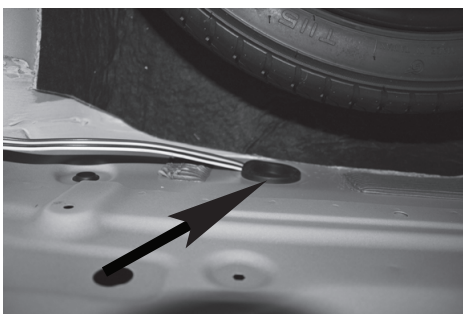

Figure 5
9. Cut the cable ties on 4-Flat portion of harness. Route 4-Flat portion of the RV harness under the opening of side wall panel to center of vehicle near grommet shown in **Figure 5**. Remove grommet and make a slit to allow 4-Flat wire to pass through. Apply silicon around area to seal.